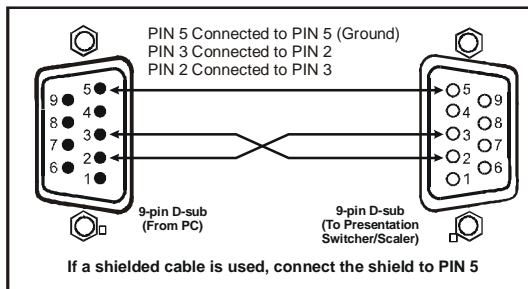

Figure 6: Connecting the PC
- Connect the RS-232 9-pin D-sub port on your PC to the RS-232 9-pin D-sub rear panel port on the **VP-747** unit, forming a cross-connection¹, as Figure 6 illustrates